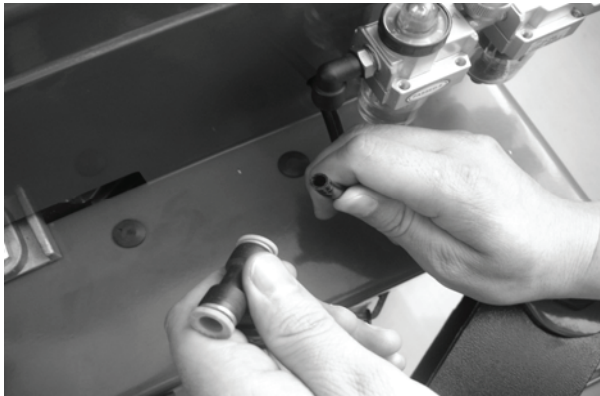

FIG 13
STEP 8: Connect the air hose. Detach the adapter on the Ø8 hose on the side wall of the body and insert it into the elbow (Fig 13/14). The adapter is to keep the hose from sliding into the body.